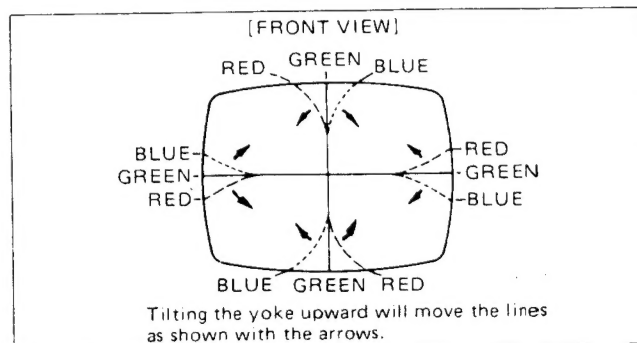

Fig. 5-10
8. Tilting the angle of the yoke up, down and sideways, and adjust the yoke so as to obtain the circumference convergence. (Fig. 5-10, 11)